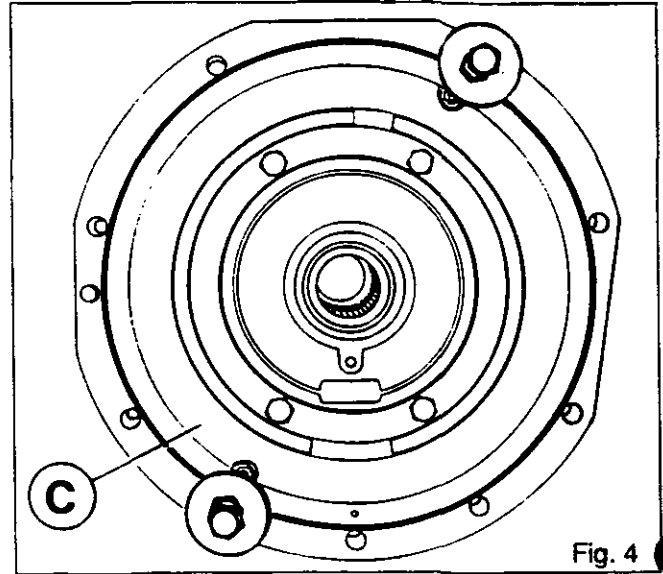

Fig. 4
- the brake disc (19)
- the planetary shaft (23)
- the locating dowel (27)
**Note :** To prevent the brake piston (C) from coming out of the housing, it is recommended that two wide washers and two bolts be fitted diametrically opposite each other to hold it in place. (Fig.4)
17. Remove the brake plate (18).